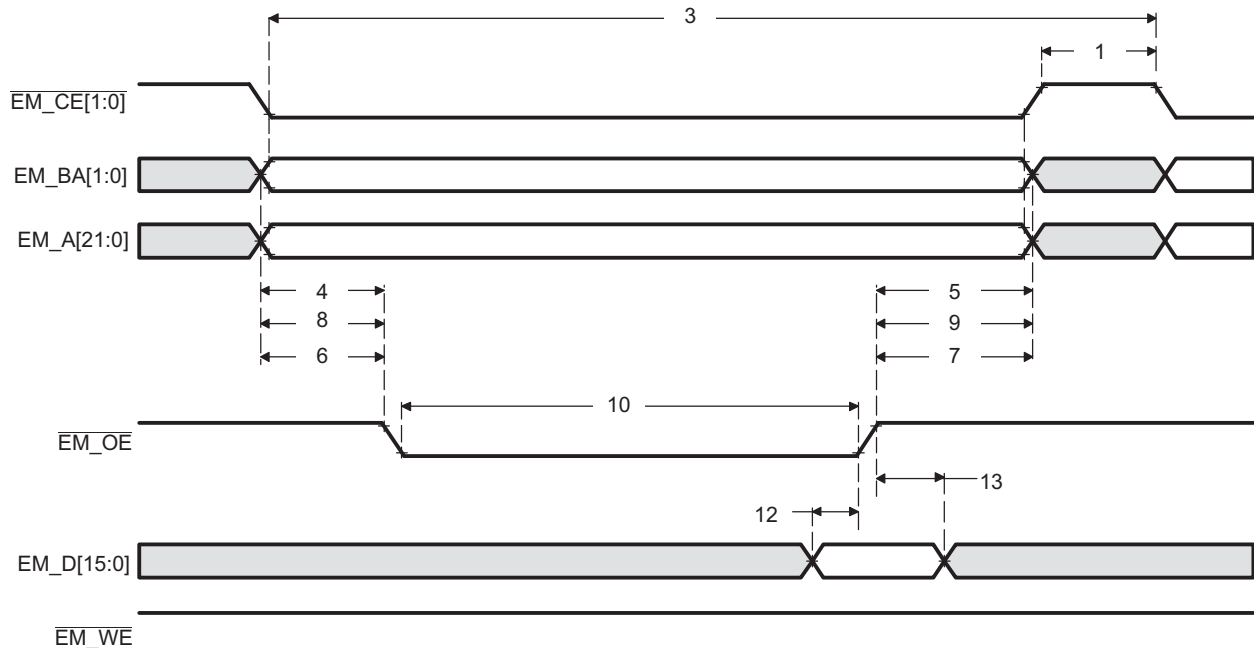
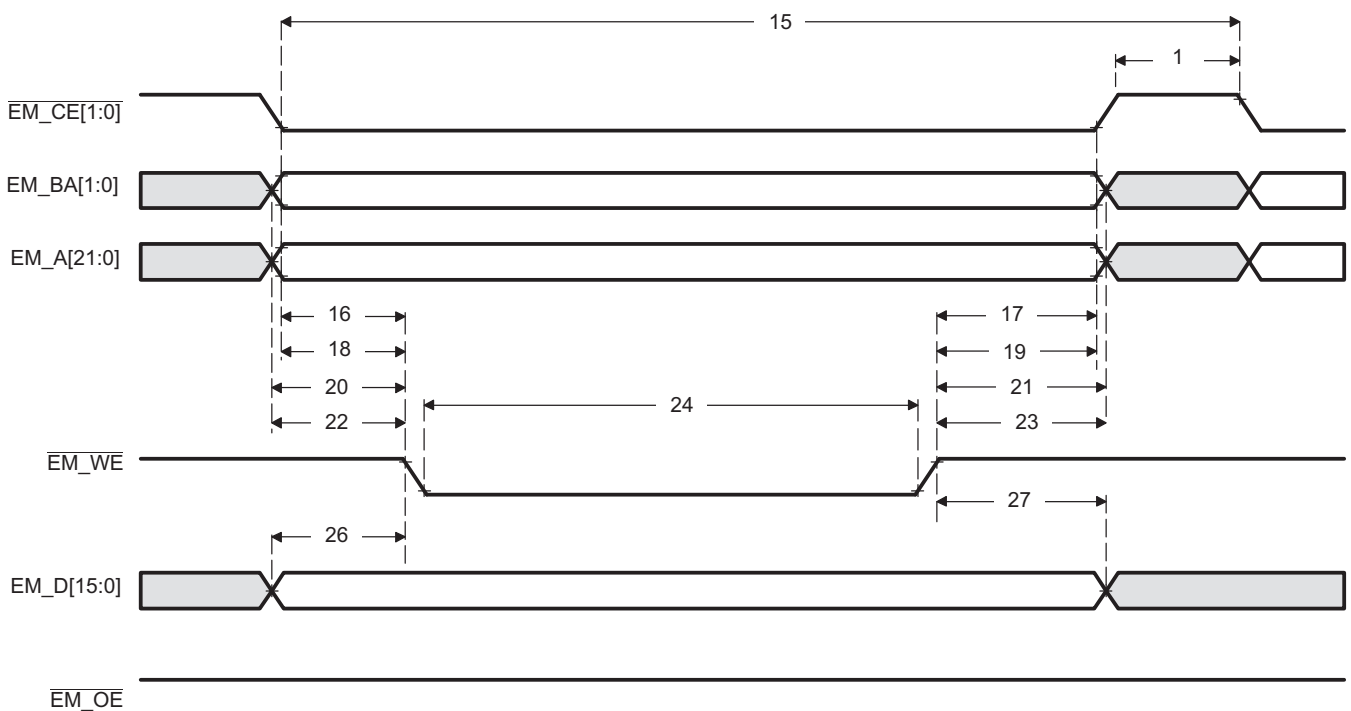

Figure 6-13. Asynchronous Memory Read Timing for EMIF
Figure 6-14. Asynchronous Memory Write Timing for EMIF
Table 6-21. Timing Requirements for Asynchronous Memory Cycles for AEMIF Module⁽¹⁾ (see Figure 6-13 and Figure 6-14)
Table 6-22. Switching Characteristics Over Recommended Operating Conditions for Asynchronous Memory Cycles for AEMIF Module⁽¹⁾ ⁽²⁾ ⁽³⁾ (see Figure 6-13 and Figure 6-14)
(1) TA = Turn around, RS = Read setup, RST = Read strobe, RH = Read hold, WS = Write setup, WST = Write strobe, WH = Write hold, MEWC = Maximum external wait cycles. These parameters are programmed via the Asynchronous Bank and Asynchronous Wait Cycle Configuration Registers. These support the following range of values: TA[4-1], RS[16-1], RST[64-1], RH[8-1], WS[16-1], WST[64-1], WH[8-1], and MEW[1-256]. See the *TMS320DM36x DMSoC Asynchronous External Memory Interface User's Guide* (SPRUF11) for more information.
(2) E=2*PLL1C SYSCLK4 period in ns. See Section 3.3 for more information.
(3) EWC = external wait cycles determined by EM_WAIT input signal. EWC supports the following range of values EWC[256-1]. Note that the maximum wait time before timeout is specified by bit field MEWC in the Asynchronous Wait Cycle Configuration Register. See the *TMS320DM36x DMSoC Asynchronous External Memory Interface User's Guide* (SPRUF11) for more information.
Table 6-22. Switching Characteristics Over Recommended Operating Conditions for Asynchronous Memory Cycles for AEMIF Module^{(1) (2) (3)} (see Figure 6-13 and Figure 6-14) (continued)